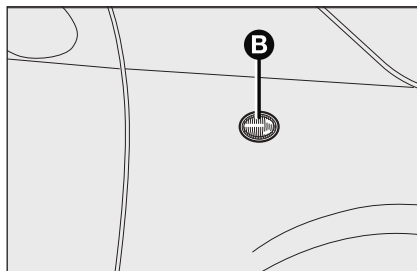

fig. 23
- ☐ prise in the point indicated by the arrow, so as to compress the fixing clip and extract the assembly **B**-fig. 23;